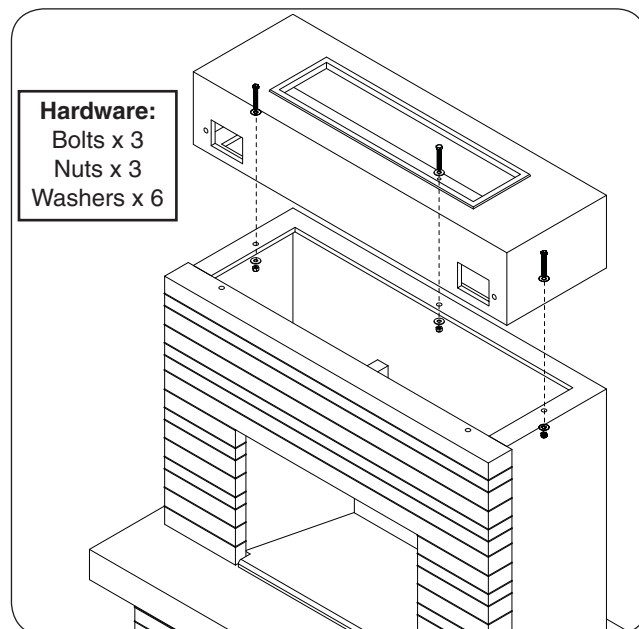

Fig. 17-1 Assemble chimney
1. Place the chimney piece on top of the body piece. Carefully align the pilot holes, and repeat the hardware installation process. See Fig. 17-1.